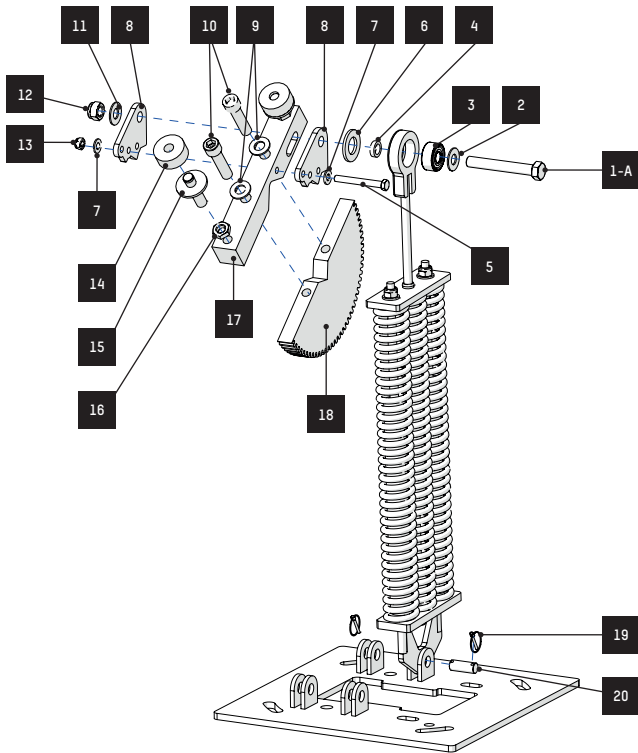

Fig. 37 - Installation of a spring assembly (1 to 3 springs)
**For operation with automatic rising** of the arm (AVR models - optional) in case of a power outage, the spring tension must be adjusted so that the arm rises slowly and completely, up to its vertical position. The contact between the upper stop (⇒ Ref. 14, Fig. 37) and the frame must not be too aggressive, or rapid deterioration will result.
2. If this adjustment is insufficient, change the configuration of the eccentrics (⇒ Ref. 8, Fig. 37):
- c. Release the central spring rods (⇒ Ref. 1, Chap. 5.5.5, page 21) by loosening the nut a few turns (⇒ Ref. 12, Fig. 37).
- d. Completely remove the bolt (⇒ Ref. 5, Fig. 37), taking care not to drop the flat washers (⇒ Ref. 7, Fig. 37) or the nut (⇒ Ref. 13, Fig. 37).
- e. Position the eccentrics (⇒ Ref. 8, Fig. 37) in the hub (⇒ Ref. 17, Fig. 37) according to the desired configuration:
- f. Screw the bolt (⇒ Ref. 5, Fig. 37), the washers (⇒ Ref. 7, Fig. 37) and the nut (⇒ Ref. 13, Fig. 37) back in.
- g. Tighten the bolt (⇒ Ref. 5, Fig. 37).